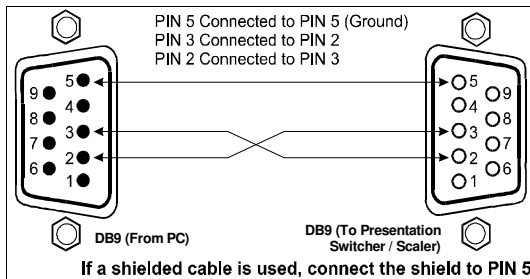

Figure 3: Connecting the PC
- Connect the RS-232 DB9 port on your PC to the RS-232 DB9 rear panel port on the **VP-725DS** unit, forming a cross-connection¹, as Figure 3 illustrates